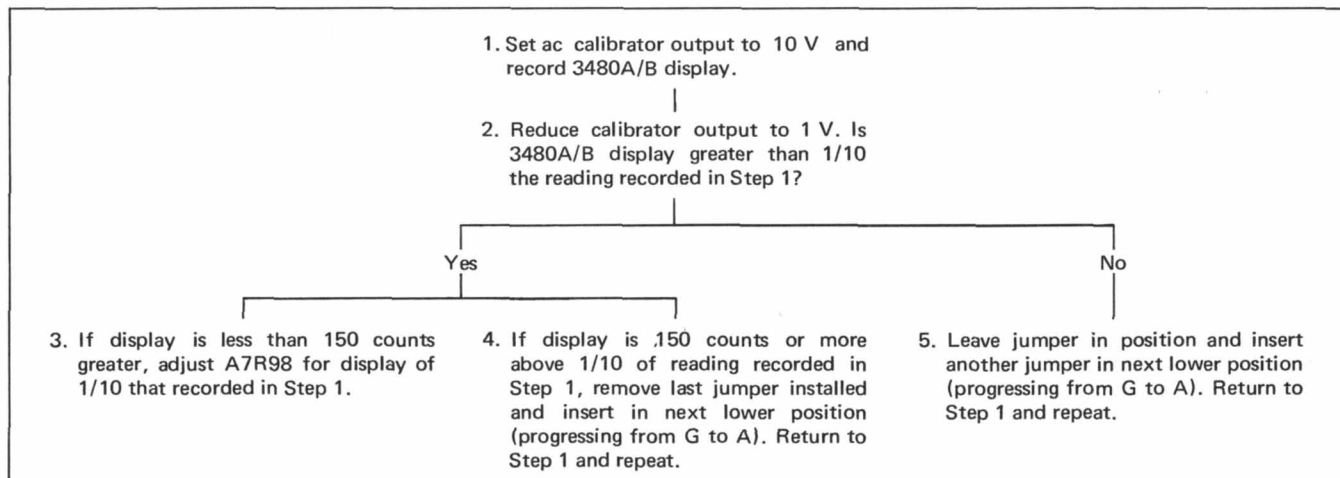

Figure 5-5. 1/10 Scale Coarse Adjustment.
- e. Follow the procedure in Figure 5-5, repeating until A7R98 can be adjusted properly (Step 3).